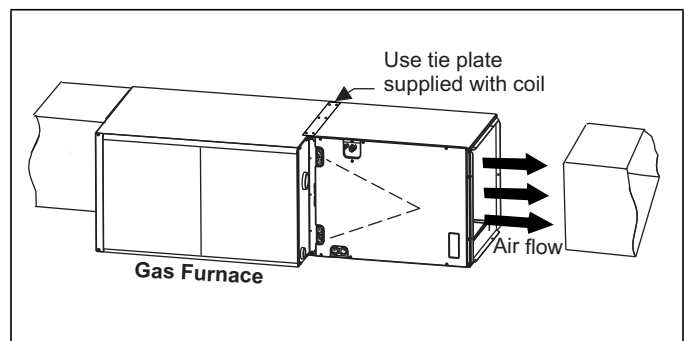

FIGURE 12: Horizontal Left or Right application (Right Shown)
*Each coil is shipped with an external tie plate that should be used to secure the coil to the furnace. It should be installed on the back side of the coil using the dimpled pilot holes. See Figure 12.*